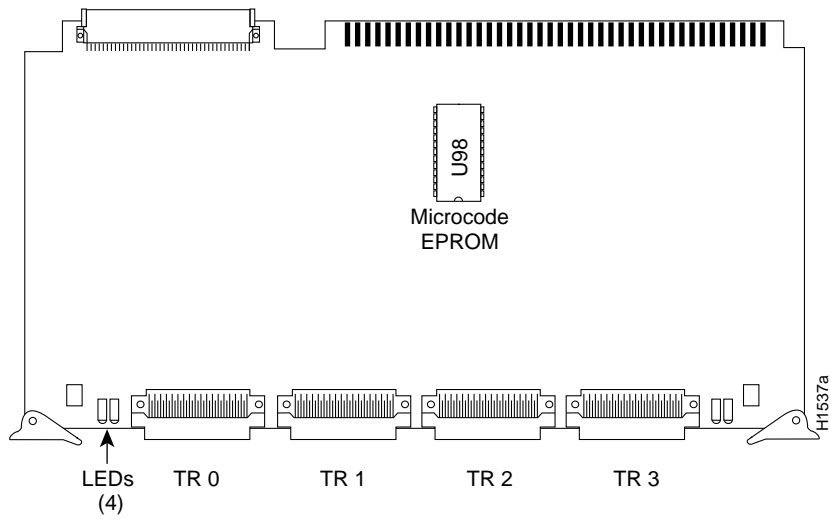

Figure 5-19 CSC-C2CTR ciscoBus Token Ring Interface Card—Component-Side View
- CSC-C2CTR ciscoBus Token Ring interface card, Figure 5-19